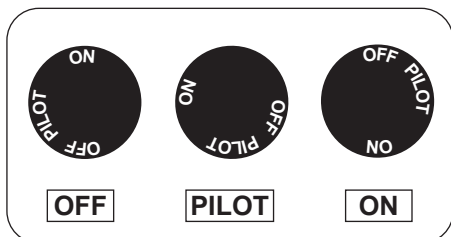

Fig. 25-1 Gas control knob
2. Locate the valve on the unit. Push in the gas control knob slightly and turn clockwise to **OFF** (Fig. 25-1).
4. Turn the control knob counterclockwise to **PILOT**. Push the knob **firmly and fully** in and hold. Push the piezo igniter button several times until the pilot lights. Continue to hold the knob in for about one (1) minute after the pilot is lit. Release the knob and it will pop back out. The pilot will remain lit. See Fig. 25-1 and 25-3. If it goes out, repeat steps 2-4. Alternatively, a long-stem match/ long-necked butane lighter can be held near the thermocouple to light the pilot.
1. Ensure the pilot is burning. Turn the control knob counterclockwise to **ON** (see Fig. 25-1).
To shut down the burner and pilot (total shutdown), flip the toggle switch to **OFF**, and push in the control knob slightly and turn clockwise to **OFF** (see Fig. 25-1 & 2).